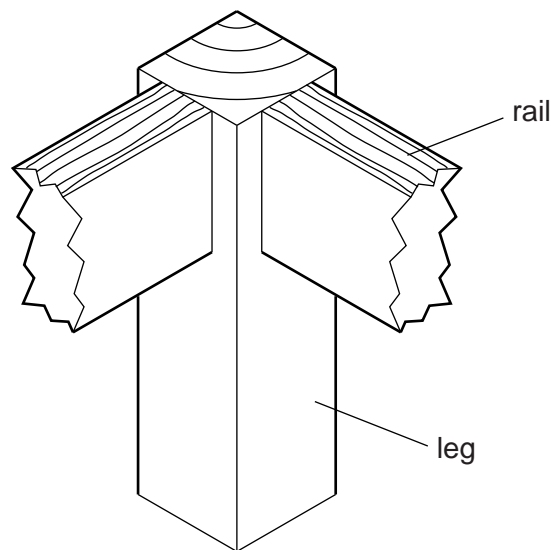

Fig. 4
- 5 Fig. 4 shows part of the frame of a bed made from softwood.